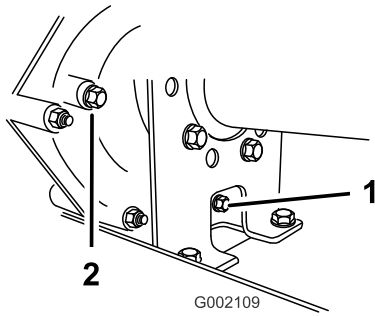
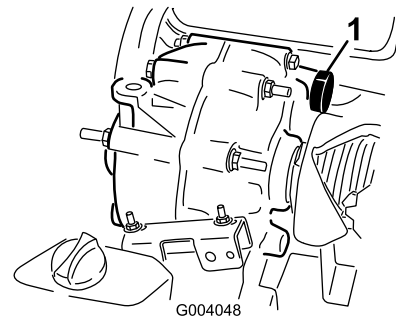

Figure 56
Figure 57
2. Wipe the area around the fill and drain plugs clean with a rag (Figure 56).
4. Remove the fill plug by rotating it counterclockwise (Figure 56).
5. Remove the drain plug by rotating it counterclockwise (Figure 56).
6. Install and tighten the drain plug and gasket into the drain-plug hole of the transmission (Figure 56).
7. Fill the reservoir (Figure 57) through the fill-plug hole with approximately 1.4 L (1-1/2 qt) of the specified oil or until the oil level in the transmission is even with the bottom of the threads. (Figure 56).
8. Install and tighten the fill plug and gasket into the fill-plug hole of the transmission (Figure 56).
10. Check the oil level and add more oil if the level is below the threads of the fill-plug hole (Figure 56).